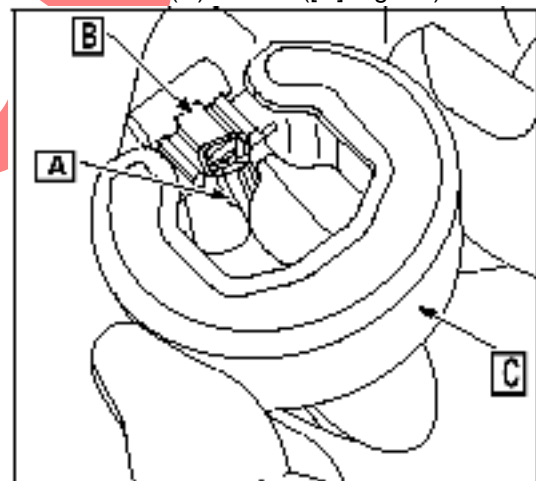

Fig. 45
Slide fuel needle valve assembly (A) on tab (B) of float ([C] Fig. 45).